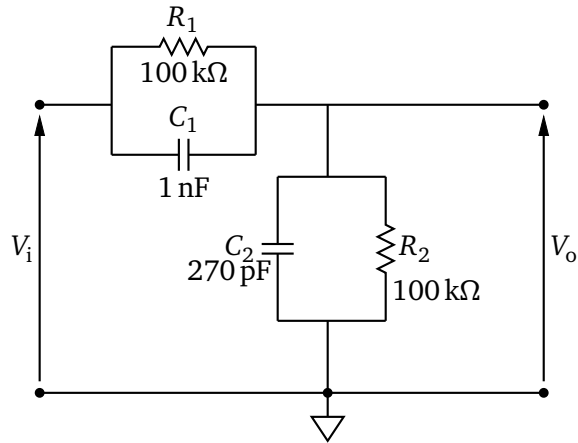
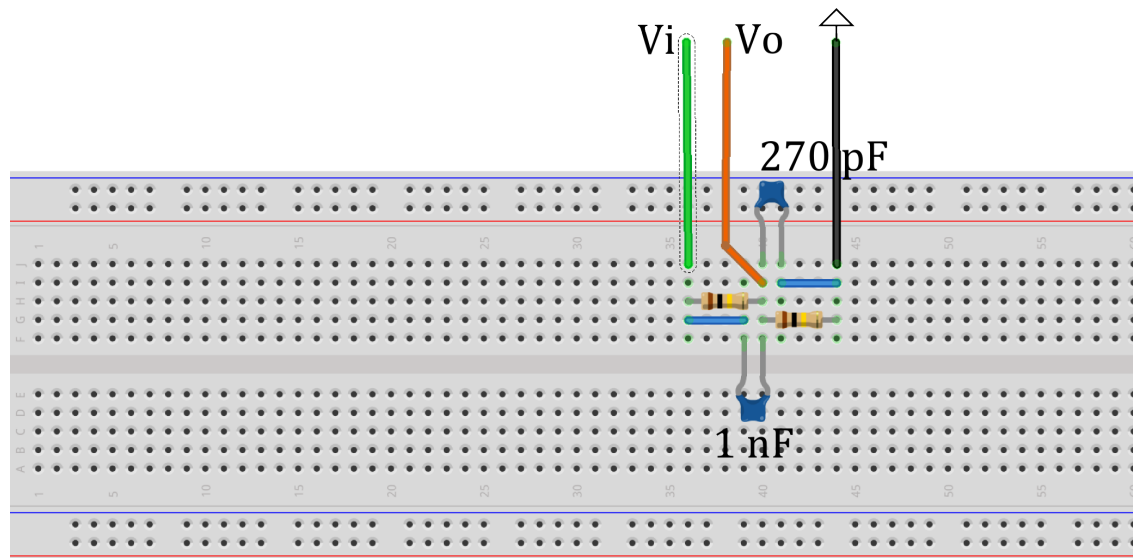

Figure 16
Figure 17: A possible way of assembling the voltage divider of figure 17.
- 1 Assemble the circuit of figure 16. Figure 17 shows a possible way of assembling the circuit.